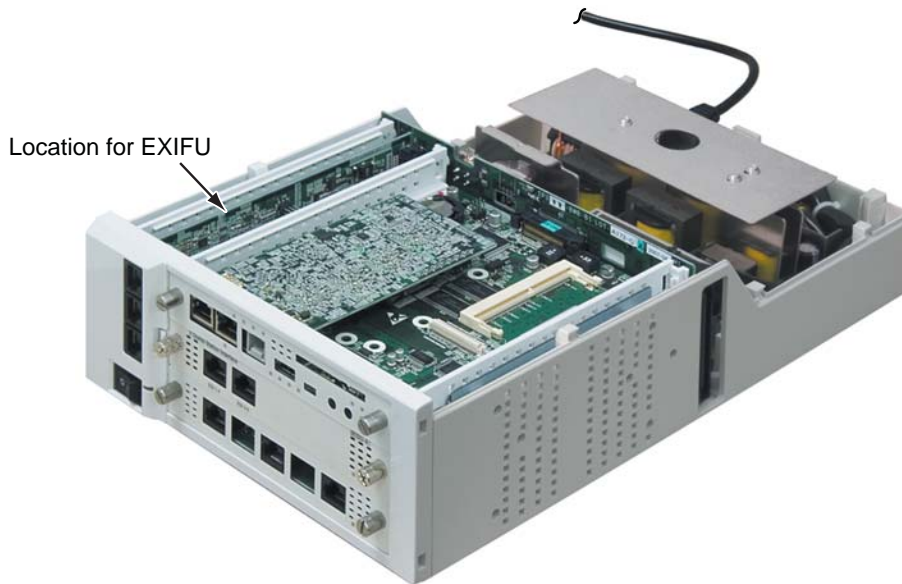

Figure 2-10: EXIFU BLADE INSTALLATION
2.4.2 Expansion (EXIFU) Blade (Figure 2-10) - P/N 0911020 and 0911022